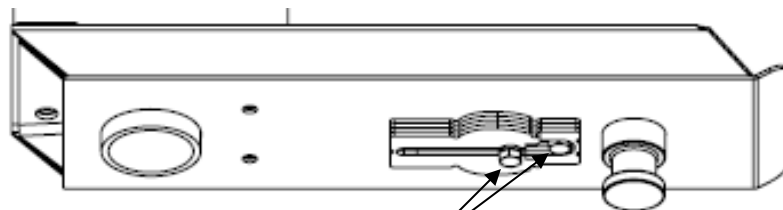

Figure 24
9. Torque (2) 5/8" Wedge Bolts to 150 ft-lbs (figure 24). A thin walled socket may be necessary.